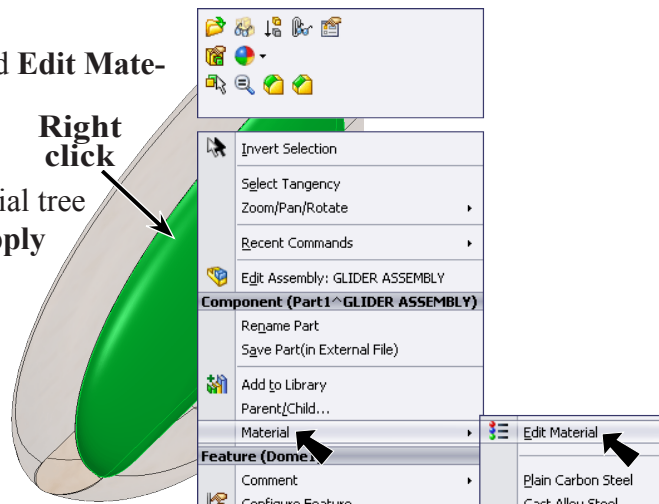

Fig. 23
Step 1. Right click the Part, click Material and Edit Material  from menu, Fig. 23.